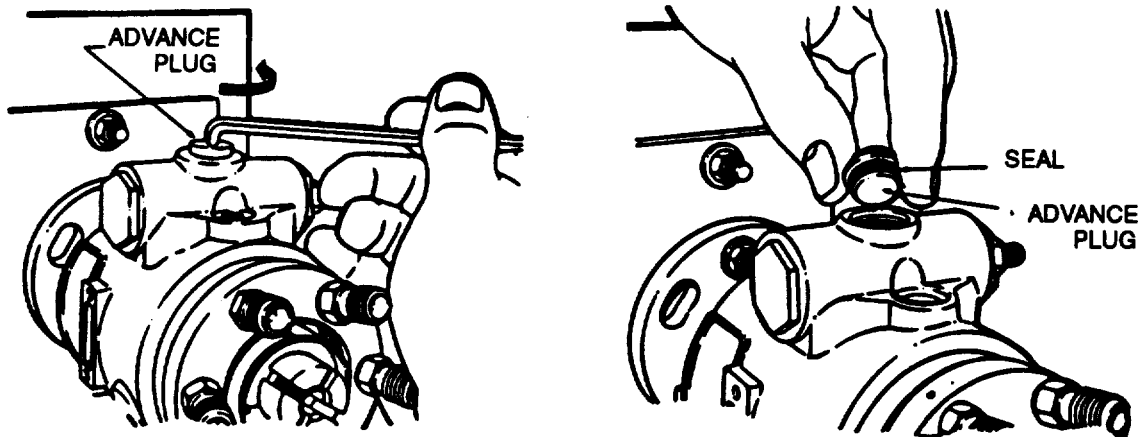

FIGURE 3-59. Removing Advance Screw Hole Plug (Typical)
- x. Remove advance screw hole plug (54, FIGURE 3-45) and seal (55), refer to FIGURE 3-59.